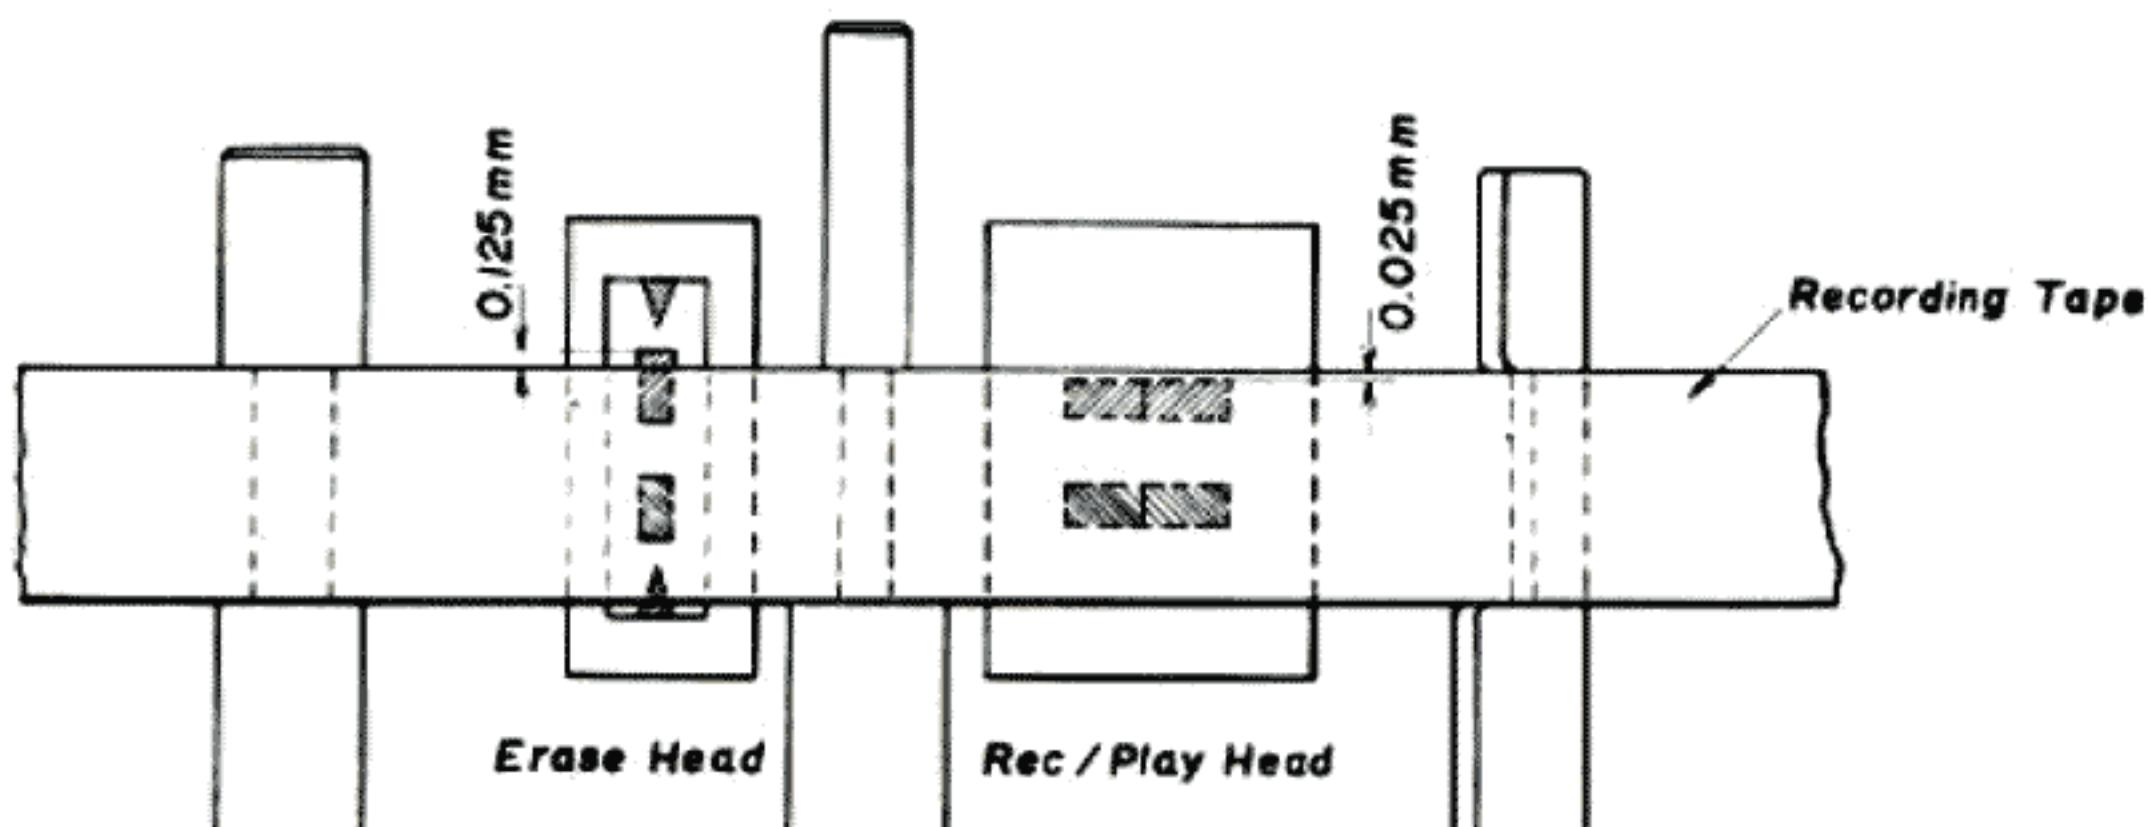

Fig. 3
- ① Position the Erase Head about 0.125 mm above the upper edge of the tape by adjusting the height of the cam provided in the lower part of the head assembly.
- ② Adjust the position of the Recording/Playback Head in a manner illustrated in figure 3 by adjusting the level control nut Ⓐ at the lower part of the head assembly.